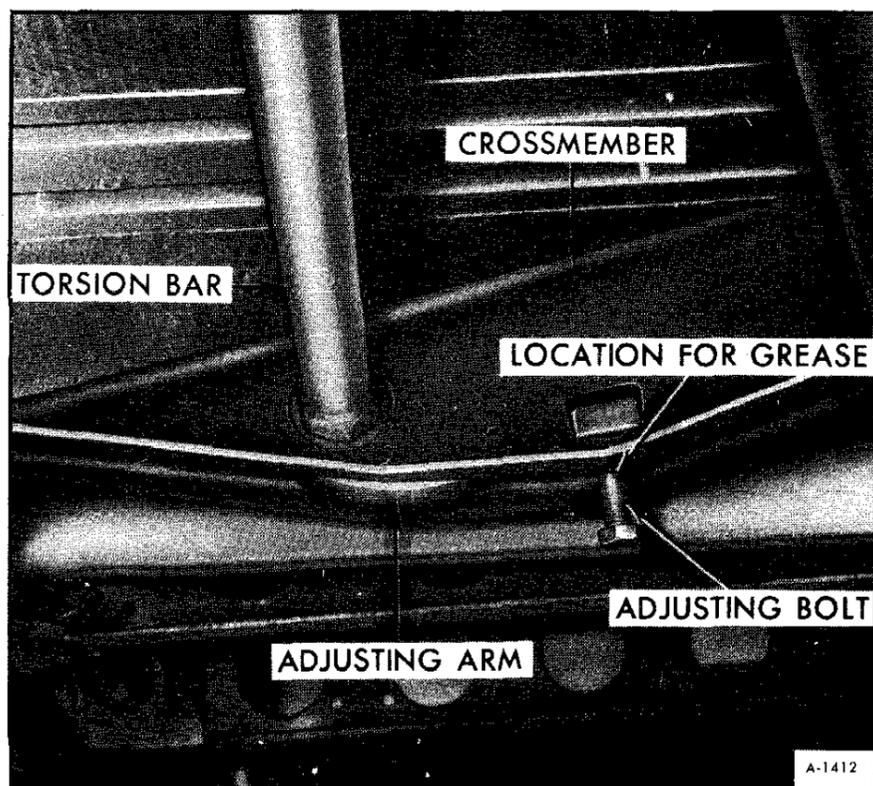

Figure 22—Location for Front Ride Height Adjustment
**NOTE:** Never attempt to increase the ride height of the vehicle using the adjusting bolt only (figure 22). The bolt will turn but will strip threads and will necessitate replacement of the bolt. Always use special tool.